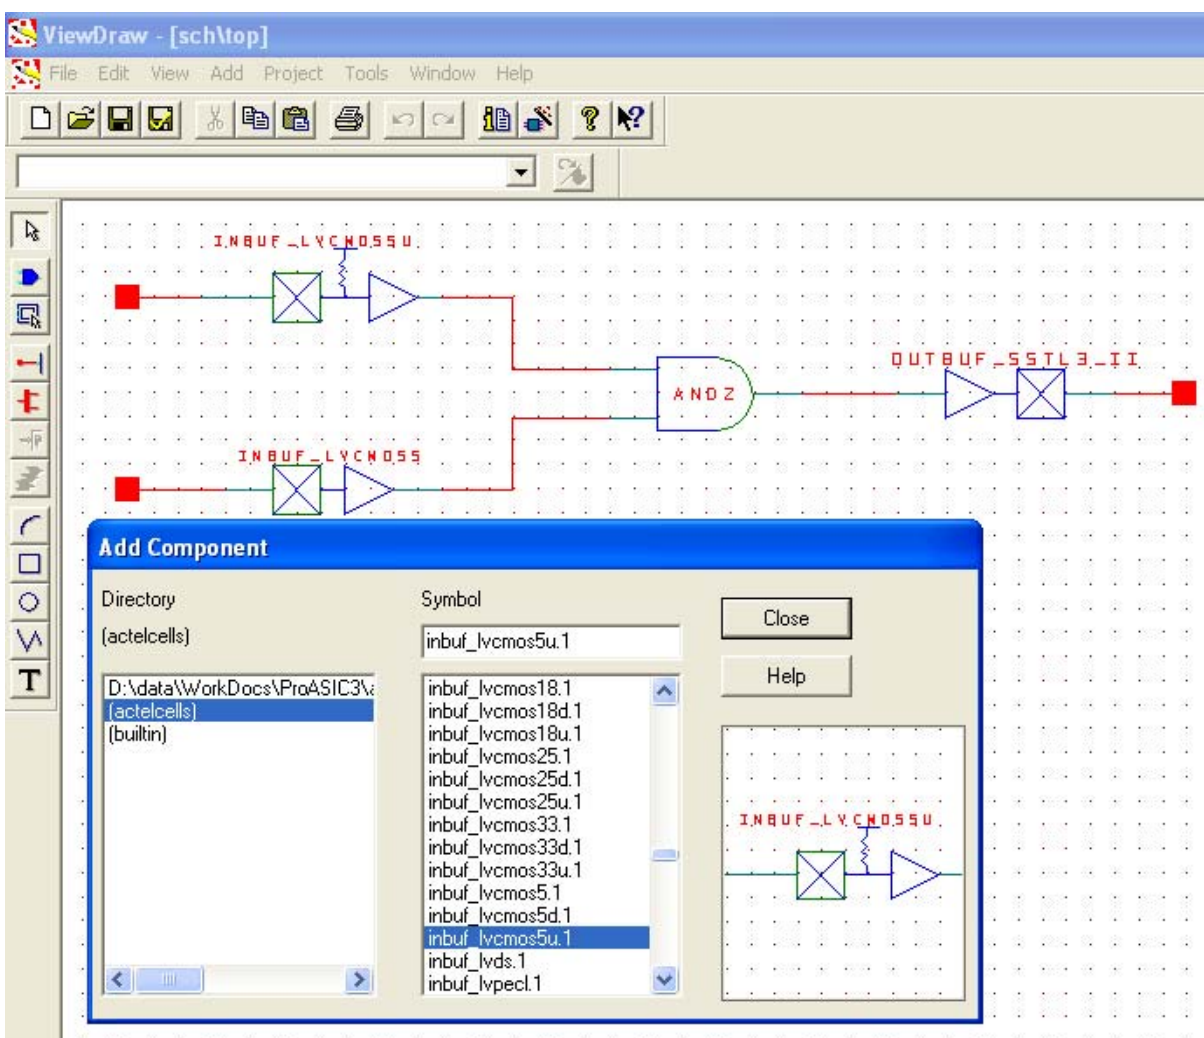

Figure 9 • I/O Buffer Schematic Cell Usage
7. Enter a name for the macro and select the **Netlist** format (VHDL or VERILOG). Click **Save**. A netlist will be created and saved in the selected folder (Figure 9 on page 13).
Liberio IDE includes the ViewDraw schematic entry tool. Using ViewDraw, the user can insert any supported I/O buffer cell in the top-level schematic. Figure 9 shows a top level schematic with different I/O buffer cells. When synthesized, the netlist will contain the same I/O macro.